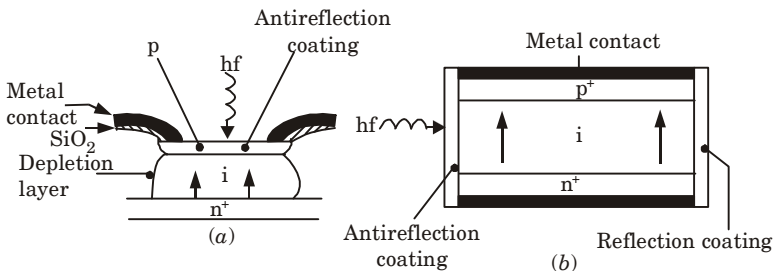

Fig. 23. (a) Structure of a front illuminated silicon p-i-n photodiode
3. Fig. 23 shows the structure of two types of silicon $p-i-n$ photodiode for operation in the shorter wavelength band below $1.09 \mu\text{m}$.